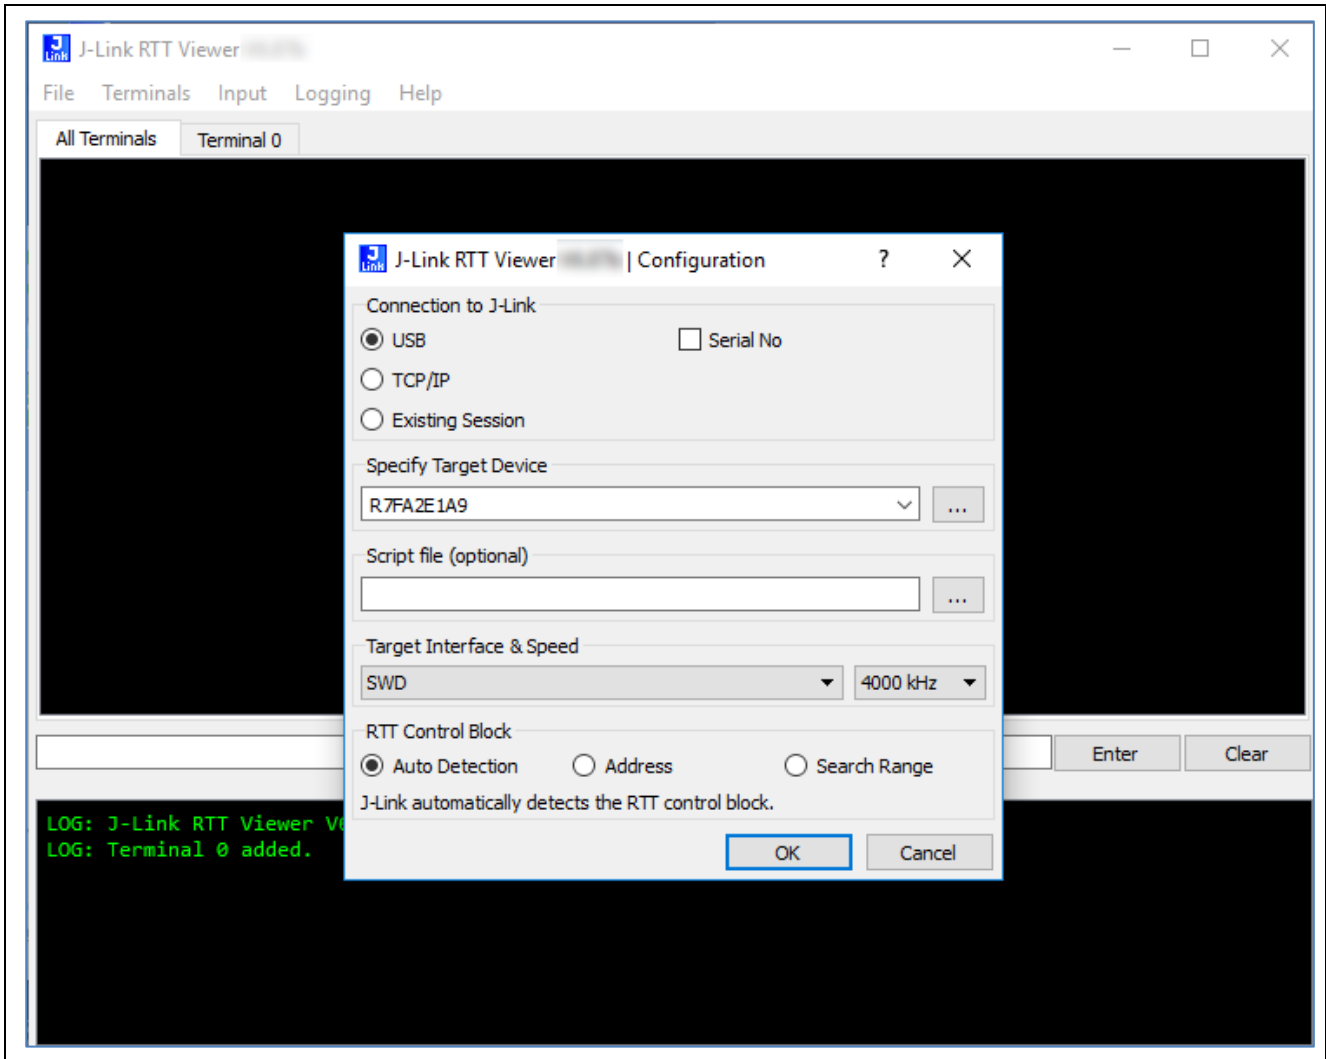

Figure 4. RTT Terminal Setup
5. The RTT settings are shown in Figure 4.